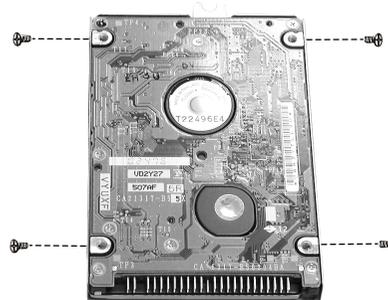

Figure 2-11 Free the hard disk
5. Unscrew four screws to remove the hard disk drive from the holding. (Figure 2-11)